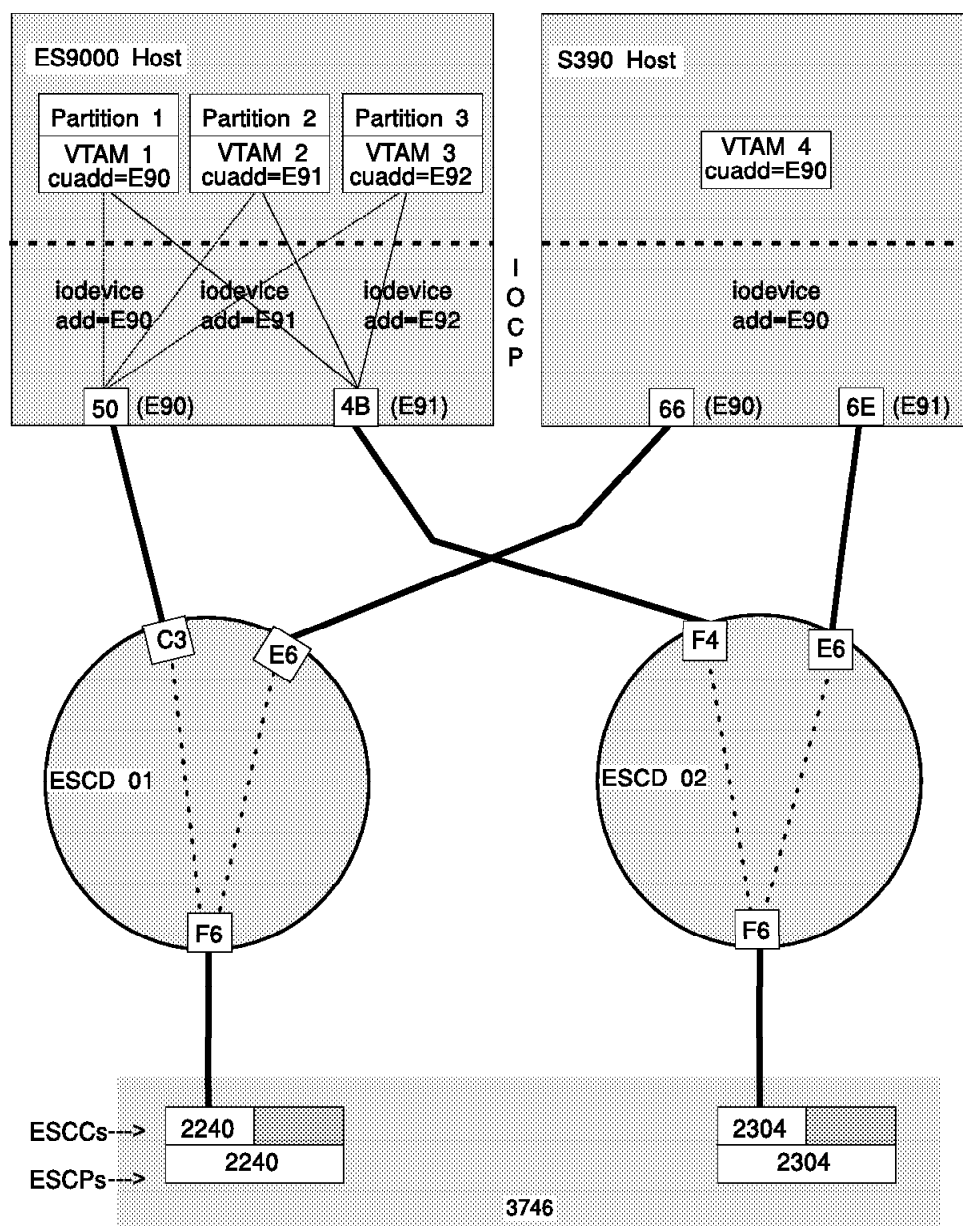

Figure 27-2. A Possibly Invalid ESCON Configuration
The ESCON configuration defined in IOCP/HCD (each ESCA has a host links and logical link stations defined) in Figure 27-2 is:
**Invalid IOCP Definitions** When the following IOCP definitions are used with the ESCON configuration in Figure 27-2 on page 27-109, the results are *invalid*.
**Valid IOCP Definitions** When the following IOCP definitions are used with the ESCON configuration in Figure 27-2 on page 27-109, the results are *valid*. It has as many CNTLUNIT statements (specifying a unique path to a CHPID) as ESCON station statements.